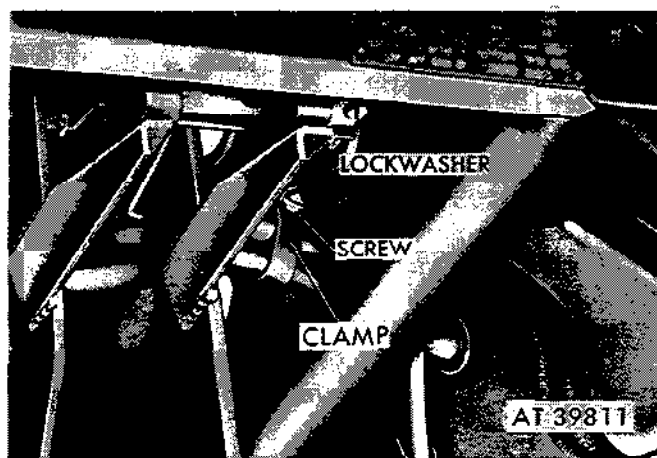

Figure 2-188. Remove clamp from firewall above clutch pedal.
(8) Remove nut, lockwasher and screw securing clamp and cables to firewall above clutch pedal. Remove rubber covered clamp from cables (fig. 2-188).